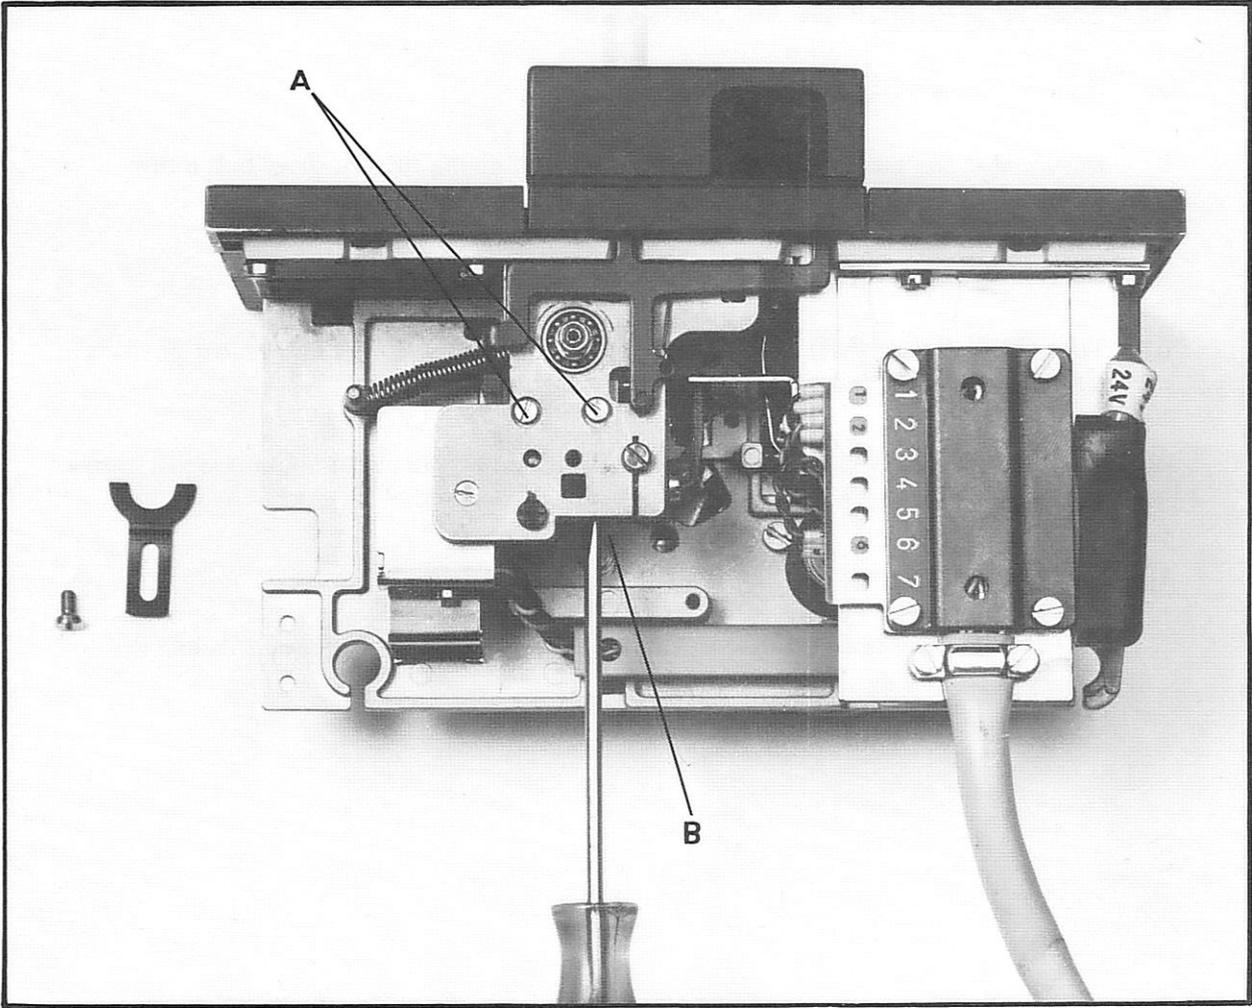

Fig. 6.14 U-bracket Adjustment
- f) If the feed pins do not correctly engage the feed holes, loosen the 2 screws marked A, and adjust screw B (inside the chassis). (See Figs. 6.14 and 6.15).